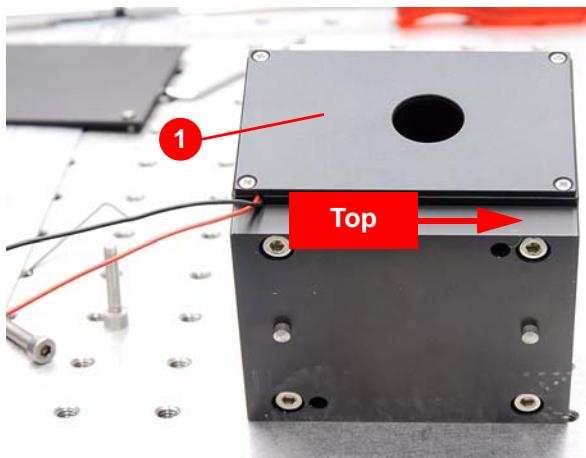

Figure 7.145 Alignment laser housing
13. Screw on the side cover (1) (Figure 7.145).